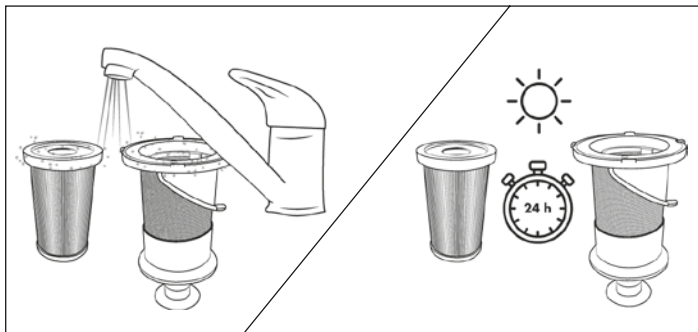

Fig. 20
- 5) Rinse the HEPA filter **5** and the stainless steel filter **6** under cold or luke-warm water. Allow the HEPA filter **5** and the stainless steel filter **6** to air dry completely before putting them back into the dust container **7** (see Fig. 20).